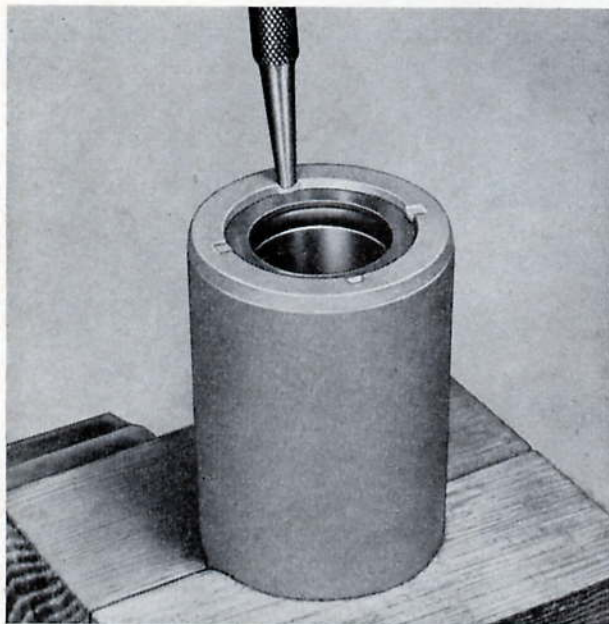

Fig. M.17. Staking the end of the drop arm shaft housing to secure oil seal washer
2. After fitting a new drop arm shaft oil seal and washer, stake the end of the shaft housing at four points to secure the washer (Fig. M.17).